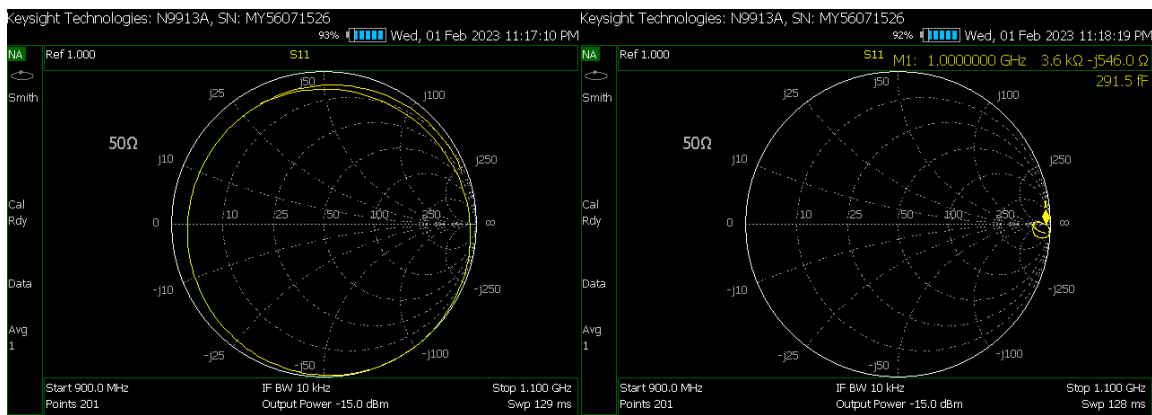

Figure 3 – Smith Chart of the S_{11} measurement between 0.9 and 1.1 GHz on the 24-inch cable before and after port extension.
5. Press Measure, Format, and select Smith. The Smith chart should show a trace revolving several times around the screen (see Figure 3).
8. Select Port1 Extension again, and rotate the selector knob until the trace reaches the open circuit location on the Smith Chart and the trace collapses to a small circle and the equivalent reactance of the load is minimized (the equivalent reactance is shown as an inductance or capacitance on the top-right of the screen) – see Figure 3. Finally, press the Back button.